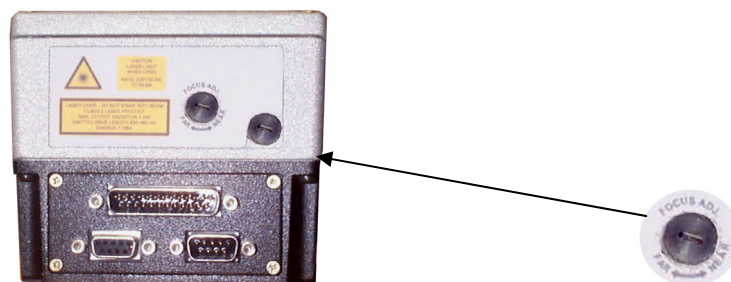

Figure 98 - Focus Adjustment Screw
The adjustment can be simply made through an external screw placed on the back of the optic HEAD and protected by a cap (Figure 98). The screw may be rotated either clockwise or counterclockwise in order to move the scanner internal lenses. In particular, a clockwise rotation causes a farther focus from the scanner, while a counterclockwise rotation causes a nearer focus to the scanner.
- 1) Remove the regulation screw protecting cap (see Figure 98) positioned on the back of the optic Head;